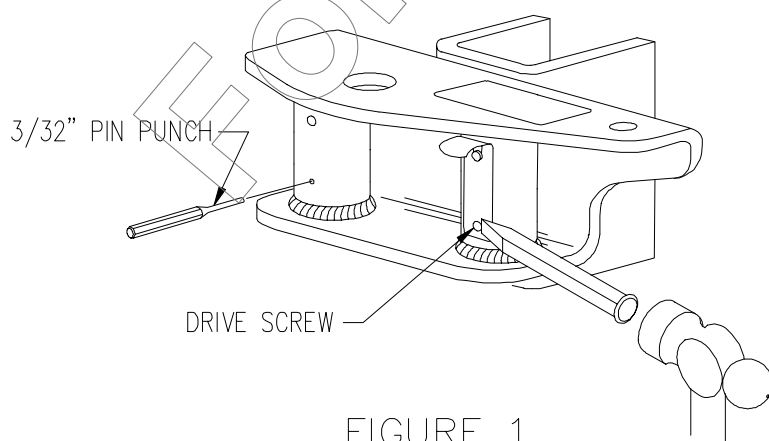

FIGURE 1
2. CAREFULLY DRIVE OUT REMAINING SHANK OF DRIVE SCREW USING 3/32" PIN PUNCH (SEE FIGURE 1).